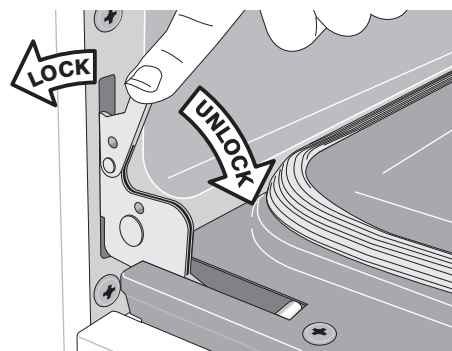

Figure 18: Door hinge locks
2. Pull the door hinge locks on both left and right door hinges down from the oven frame completely toward the oven door (Figure 18). A tool such as a small flat-blade screw-driver may be required.
4. Push the door hinge locks up towards and into the oven frame on both left and right oven door hinges to the locked position (Figure 18).